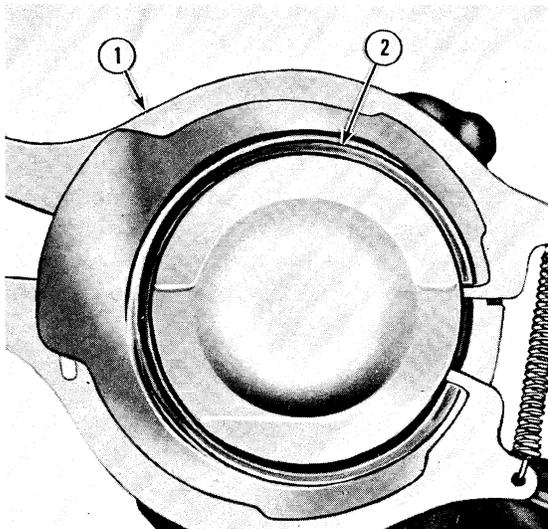

Figure 32
3. Remove the piston rings with an expander, Figure 32.